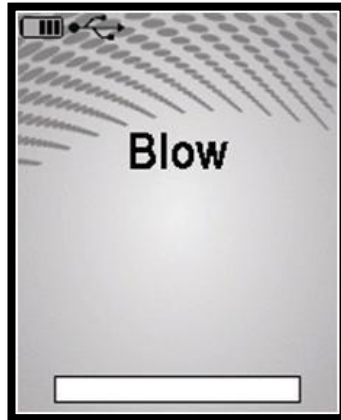

Figure 9 - Blow is displayed when device is ready
- Blow will be displayed when the device is ready (refer Figure 9).